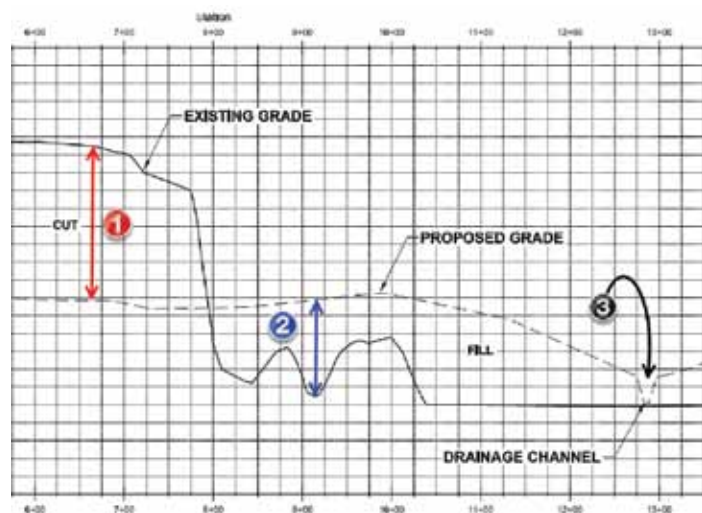

Figure 4: Boundaries defined
Next, we will create three separate areas to hatch. The cut area (1), fill area (2), and the drainage channel (3) as shown in Figure 4.